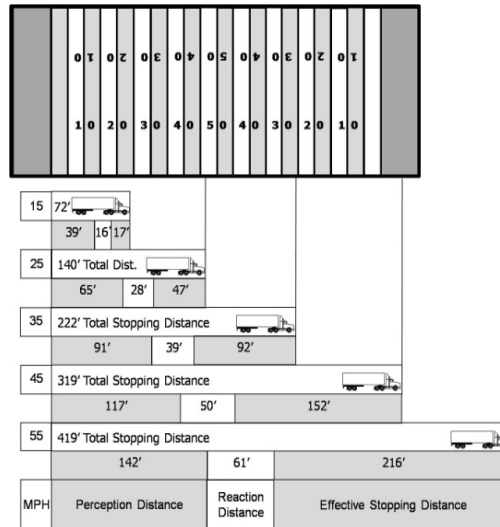

Figure 2.11
**The Effect of Speed on Stopping Distance.** The faster you drive, the greater the impact or striking power of your vehicle. When you double your speed from 20 to 40 mph the impact is 4 times greater. The braking distance is also 4 times longer. Triple the speed from 20 to 60 mph and the impact and braking distance is 9 times greater. At 60 mph, your stopping distance is greater than that of a football field. Increase the speed to 80 mph and the impact and braking distance are 16 times greater than at 20 mph. High speeds greatly increase the severity of crashes and stopping distances. By slowing down, you can reduce braking distance. See Figure 2.11